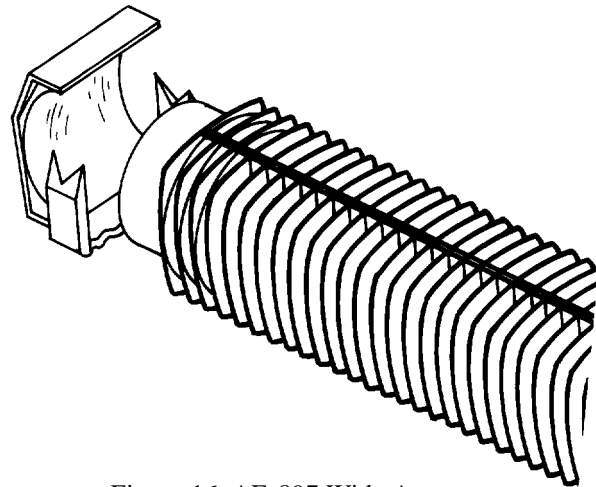

Figure 16. AE-897 Wide Aperture
47. **AE-897 Wide Aperture.** Used for heating solder termination sleeves and shrinking small-diameter handle tubing. Used on devices having a maximum outside diameter of 3/8 inch and a maximum length of 2 inches and has to be ordered separately (Figure 16).